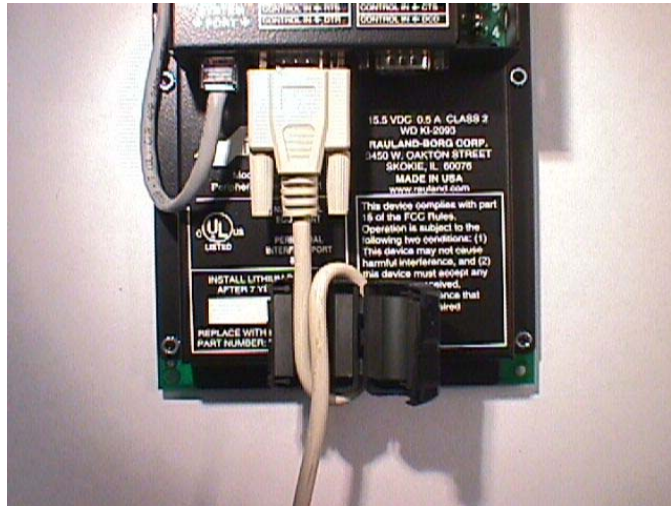

Figure 333: Cable looped once through bead
- 3 Wrap one turn of the cable around the bead. (Figure 333)